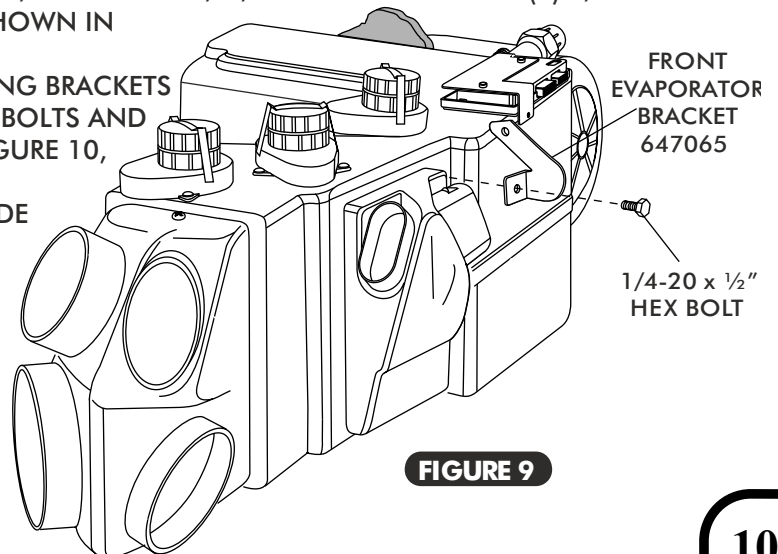
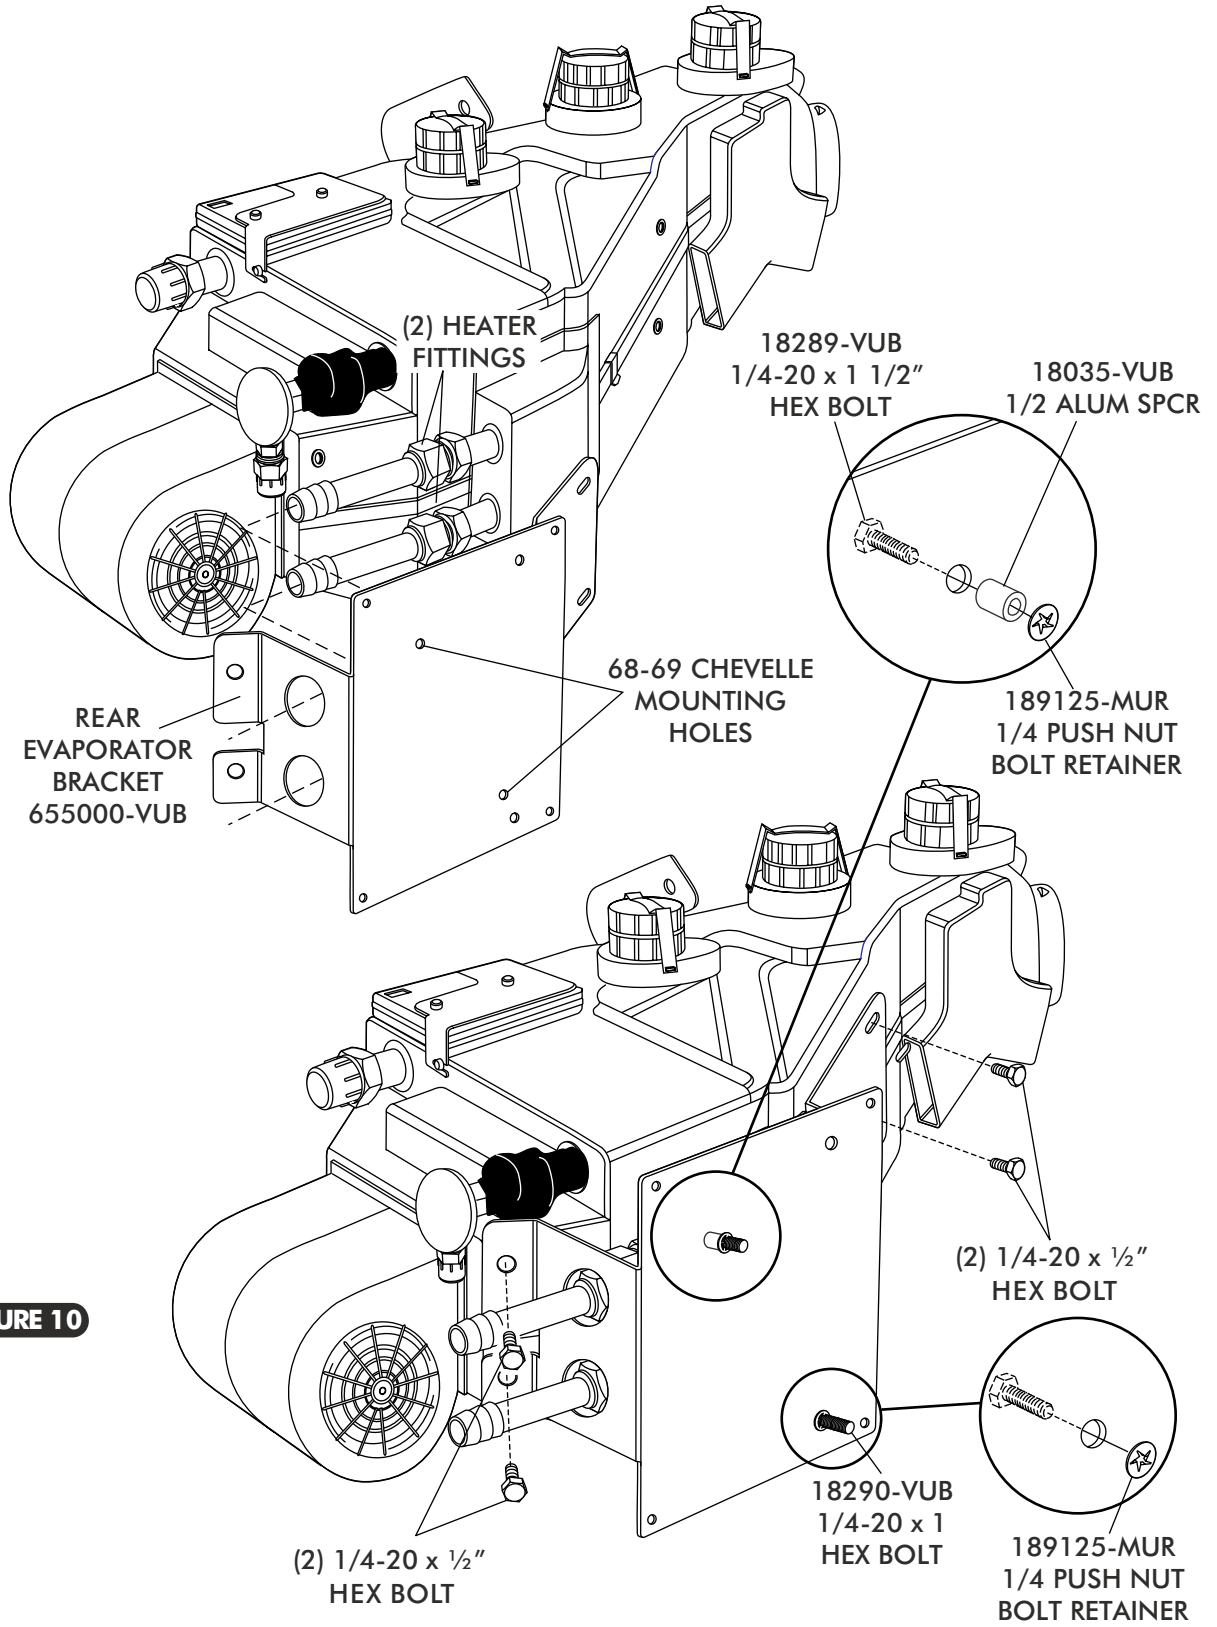
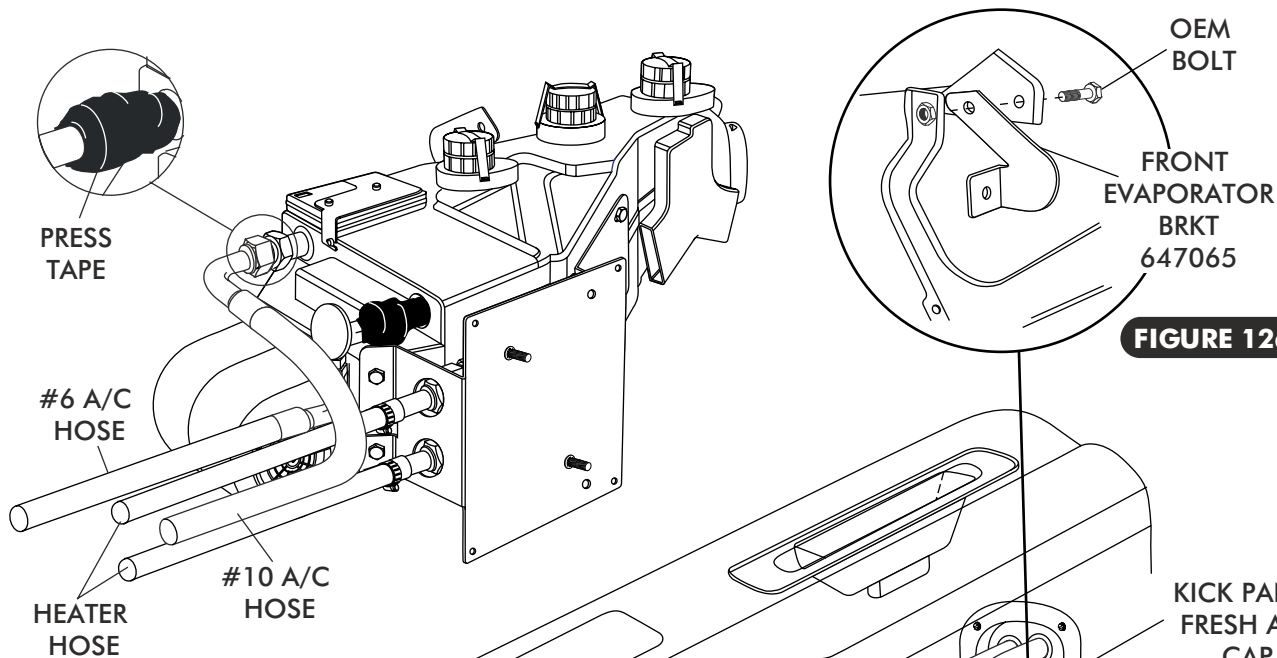
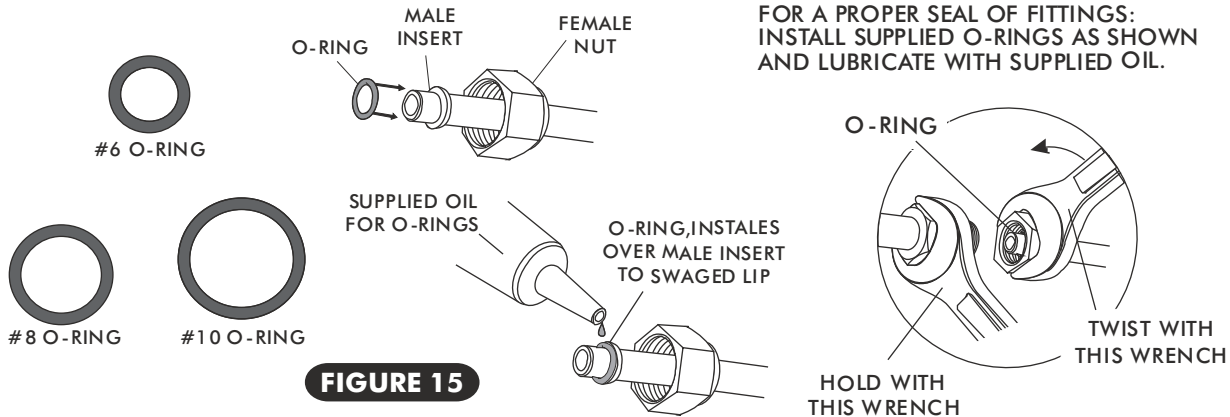

FIGURE 9
FIGURE 10
FIGURE 11
FIGURE 15
- ON A WORK BENCH INSTALL (2) HEATER FITTINGS WITH PROPERLY LUBRICATED O-RINGS. (SEE FIGURE 15 PAGE 14, AND FIGURE 10 PAGE 11.)
- INSTALL 1/4-20 x 1" HEX BOLT AND 1/4-20 x 1 1/2 HEX BOLT w/ 1/2 ALUM SPACER AND (2) 1/4 PUSH NUT BOLT RETAINER ON EVAP REAR BRKT AS SHOWN IN FIGURE 10, PAGE 11.
- INSTALL EVAPORATOR FRONT & REAR MOUNTING BRACKETS ON EVAPORATOR USING (5) 1/4-20 x 1/2" HEX BOLTS AND TIGHTEN AS SHOWN IN FIGURE 9 BELOW & FIGURE 10, PAGE 11.
- LAY EVAPORATOR SUBCASE ON PASSENGER SIDE FLOOR BOARD. INSTALL A/C & HEATER HOSE ON EVAPORATOR AS SHOWN IN FIGURE 11, PAGE 12 AND HOSE INSTALLATION ON PAGE 14.
- **(NOTE: WRAP THE #10 FITTING CONNECTIONS WITH PRESS TAPE. SEE FIGURE 11, PAGE 12.)**
- LOCATE THE #8 COMPRESSOR A/C HOSE. LUBRICATE (2) #8 O-RINGS (SEE FIGURE 15, ABOVE) AND CONNECT THE 135° FEMALE FITTING w/ 134a SERVICE PORT TO THE #8 DISCHARGE PORT ON THE COMPRESSOR. ROUTE THE STRAIGHT FEMALE FITTING TO THE #8 CONDENSER HARDLINE COMING THROUGH CORE SUPPORT. SEE FIGURE 16 PAGE 15 AND FIGURE 16a PAGE 16. TIGHTEN EACH FITTING CONNECTION AS SHOWN IN FIGURE 15 ABOVE.
- LOCATE THE #10 COMPRESSOR A/C HOSE. LUBRICATE (2) #10 O-RINGS (SEE FIGURE 15, ABOVE) AND CONNECT THE #10 135° FEMALE FITTING w/134a SERVICE PORT TO THE #10 SUCTION PORT ON THE COMPRESSOR. ROUTE THE 90° FEMALE FITTING TO THE #10 EVAPORATOR. SEE FIGURE 11 PAGE 12 AND FIGURE 16 PAGE 15 AND FIGURE 16a PAGE 16. TIGHTEN EACH FITTING CONNECTION AS SHOWN IN 15 ABOVE.
- LOCATE THE #6 EVAPORATOR A/C HOSE. LUBRICATE (2) #6 O-RINGS (SEE FIGURE 15 , ABOVE) AND CONNECT THE STRAIGHT FEMALE FITTING TO THE #6 HARDLINE COMING THROUGH THE CORE SUPPORT FROM DRIER. ROUTE THE 90° FEMALE FITTING TO THE #6 EVAPORATOR. SEE FIGURE 11, PAGE 12 AND FIGURE 16 PAGE 15 AND FIGURE 16a PAGE 16. TIGHTEN EACH FITTING CONNECTION AS SHOWN IN FIGURE 15, ABOVE.
- ROUTE A PIECE OF HEATER HOSE FROM THE WATER PUMP TO THE TOP HEATER FITTING OF HEATER CORE AS SHOWN IN FIGURE 11 PAGE 12 AND FIGURE 16 BELOW. SECURE USING HOSE CLAMPS
- ROUTE A PIECE OF HEATER HOSE FROM THE INTAKE TO THE BOTTOM HEATER FITTING OF HEATER CORE AS SHOWN IN FIGURE 11 PAGE 12 AND FIGURE 16 BELOW. NOTE: INSTALL HEATER CONTROL VALVE IN-LINE WITH INTAKE MANIFOLD (PRESSURE SIDE) HEATER HOSE, SECURE USING HOSE CLAMPS AS SHOWN IN FIGURE 16, BELOW. **NOTE: PROPER FLOW DIRECTION.**
- ROUTE A PIECE OF HEATER HOSE FROM THE WATER PUMP TO THE TOP HEATER FITTING OF HEATER CORE AS SHOWN IN FIGURE 11 PAGE 12 AND FIGURE 16a BELOW. SECURE USING HOSE CLAMPS
- ROUTE A PIECE OF HEATER HOSE FROM THE INTAKE TO THE BOTTOM HEATER FITTING OF HEATER CORE AS SHOWN IN FIGURE 11 PAGE 12 AND FIGURE 16a BELOW. NOTE: INSTALL HEATER CONTROL VALVE IN-LINE WITH INTAKE MANIFOLD (PRESSURE SIDE) HEATER HOSE, SECURE USING HOSE CLAMPS AS SHOWN IN FIGURE 16a, BELOW. **NOTE PROPER FLOW DIRECTION.**